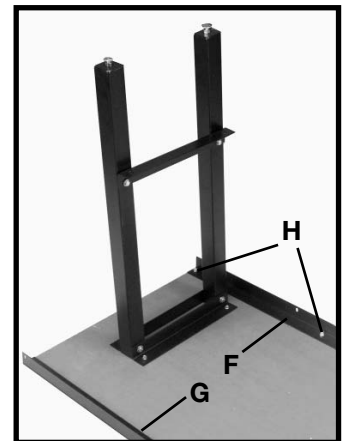

Fig. 62
7. Fasten the front and rear table supports (F) and (G) Fig. 62, to the bottom of the table as shown using six #8 x 7/8" long screws (H) supplied (four of which are shown). **NOTE:** The slots closer to the angles in the supports (F) and (G) should be against the table. Make certain the ends of the table supports do not extend out past the table. The rear support (G) Fig. 62, can be fastened to the bottom of the table by tightening screws (H). At this time, however, the screws (H) holding the front support (F) should not be completely tightened. **CAUTION: DO NOT OVER-TIGHTEN MOUNTING SCREWS.** Over-tightening screws in particle board may cause them to strip.